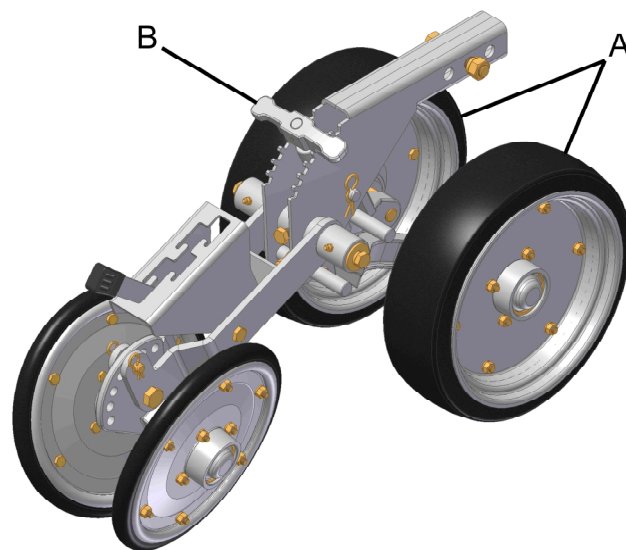

fig. 26
The limitation of depth is made individually through the depth gauge wheels (A) (fig. 26), that are adjusted by means of handle (B), being that each position enables the adjustment of 1 to 1cm, as needed.